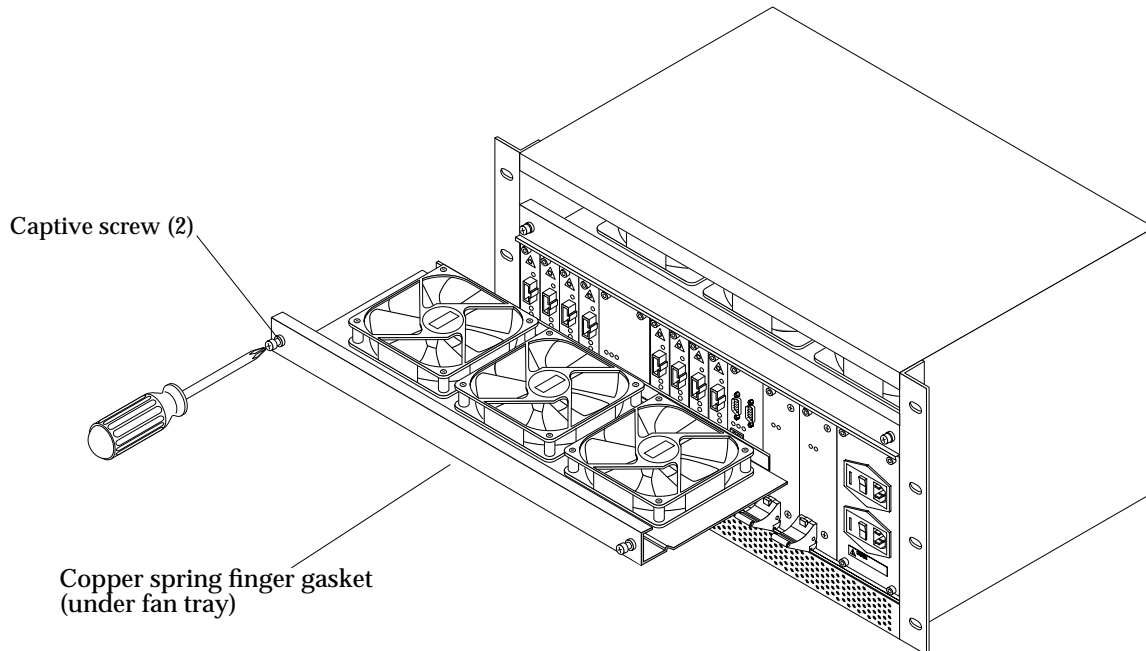

FIGURE 4-5 Replacing a Fan Tray
2. Loosen the captive screws at either side of the fan tray (FIGURE 4-5).
2. Ensure that both sides of the tray are engaged in the guide slots and then push the fan tray into the slot (FIGURE 4-5).
3. Tighten the captive screws (FIGURE 4-5).